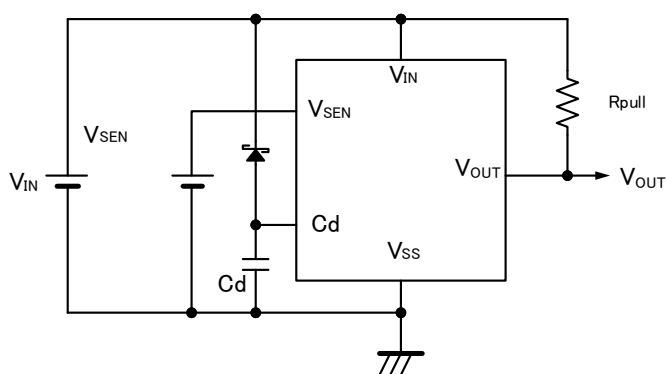

Figure 3: Circuit example with a Schottky diode connected to the Cd pin
- To place a Schottky diode between the VIN pin and the Cd pin. (See Figure 3)